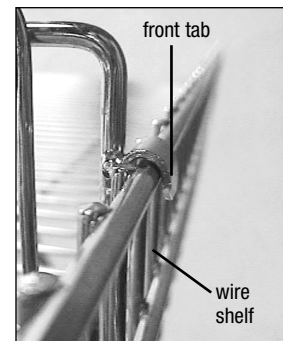

figure 8
- 3) Clip the front tab over the wire shelf, as shown in *figure 8*.